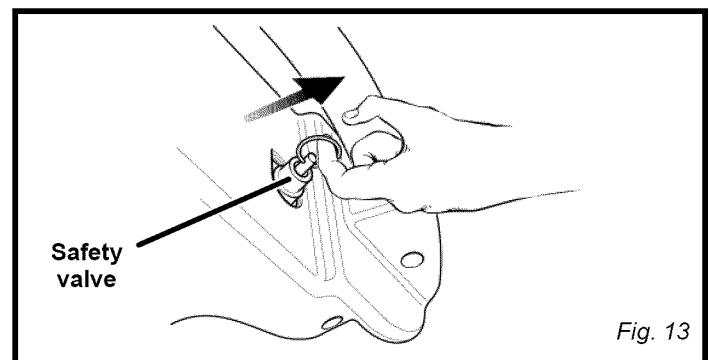

Fig. 13
See figure 13.
- Pull the ring on the safety valve (fig. 13) to release air for twenty seconds.